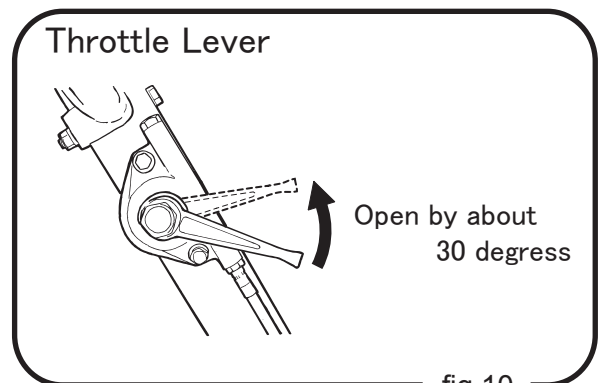

fig.10
2. Open the throttle lever to about 30° for the idling position. (Fig.10)